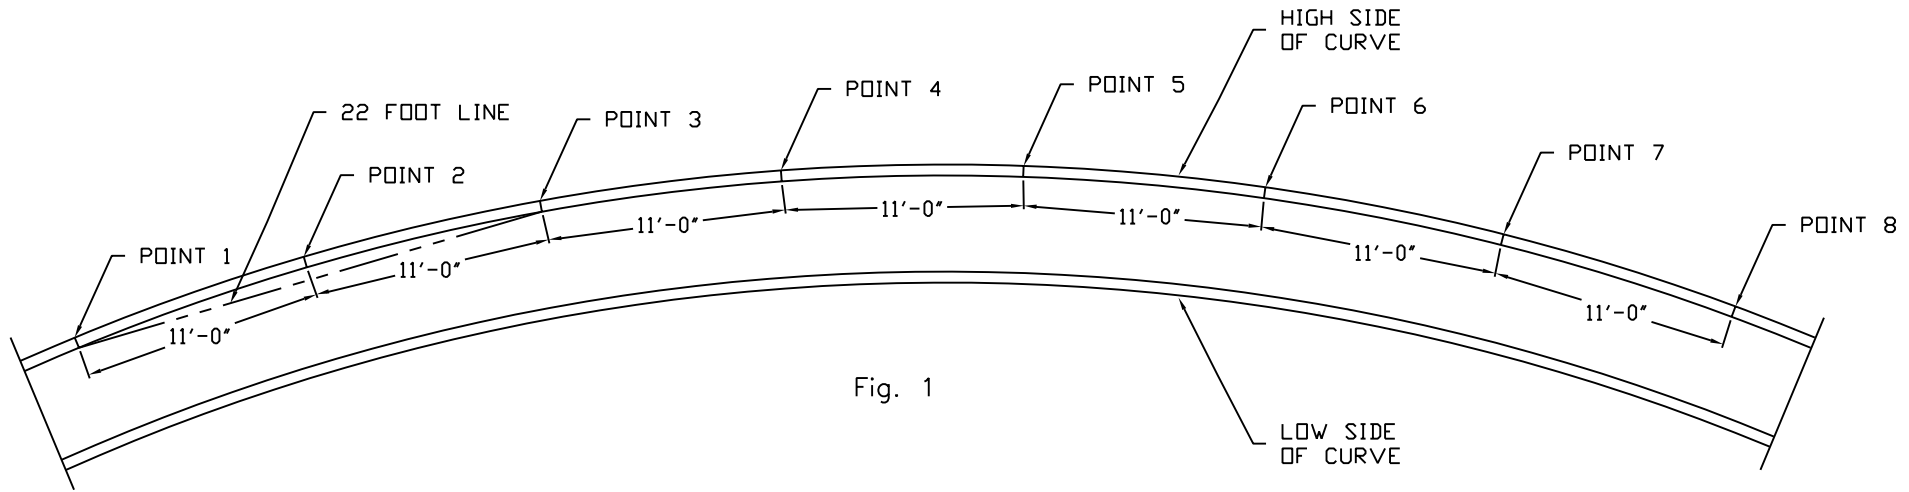

Fig. 1
- 1) Starting at least 11' before the area where the TrackPan system will begin, mark several points on the inside face of the rail head on the high side of the curve, 11' apart. These Points should continue at least 11' past where the TrackPan system will end. (See Fig. 1)